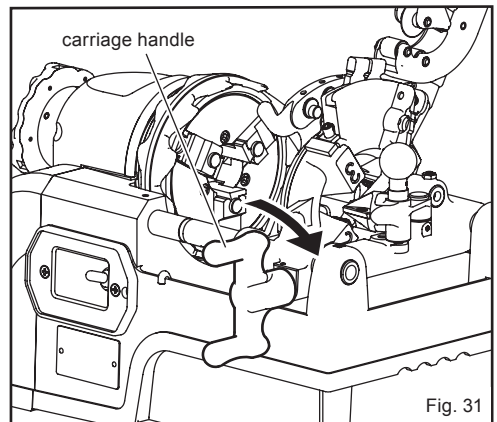

Fig. 31
- (2) Push the guide set knob in the direction of arrow 4 until it stops. The die head is now set in position. Switch on the machine and the thread cutting oil will automatically flow out of the die head.
- (3) Turn the carriage handle to the right to advance the die head against the pipe and allow the dies to begin cutting (Fig. 31)
- (4) Once three or four threads have been cut, the remainder will be cut automatically. When the prescribed thread length is reached, the dies will be released by the auto-open lever.
- (5) Turn the carriage handle to the left to release the die head from the pipe.